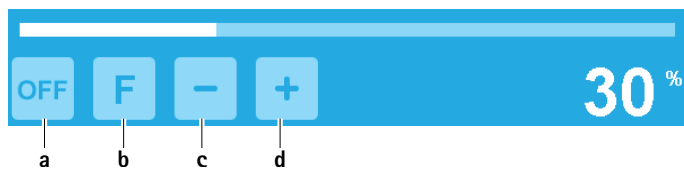

Fig. 7 Activating the irrigation pump/"Flush" function
- ▶ To activate the irrigation pump: Activate the button for switching on the irrigation pump **a**, see Fig. 7.
- ▶ To deactivate the irrigation pump: Activate the button for switching off the irrigation pump **a**, see Fig. 7.